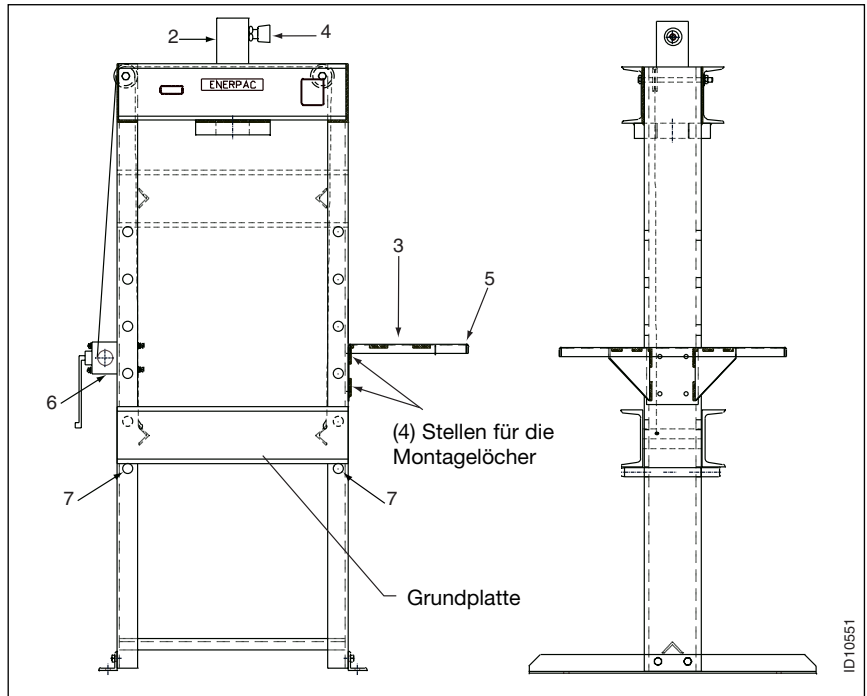

Abb. 1, VLP-Press
3.0 INSTALLATION (SIEHE ABB. 1)